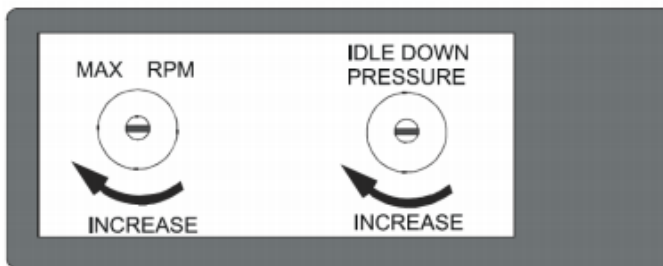

Figure 1
- With the ball valve open, turn the max rpm screw until VR throttle is **Diesel engine:** 2100 RPM approx. / **Gas engine:** 2400 RPM approx. This will provide approx. 58CFM @ 95 – 105 PSI with VMAC Test Tool and correct Orifice in place). (See Figure 1)